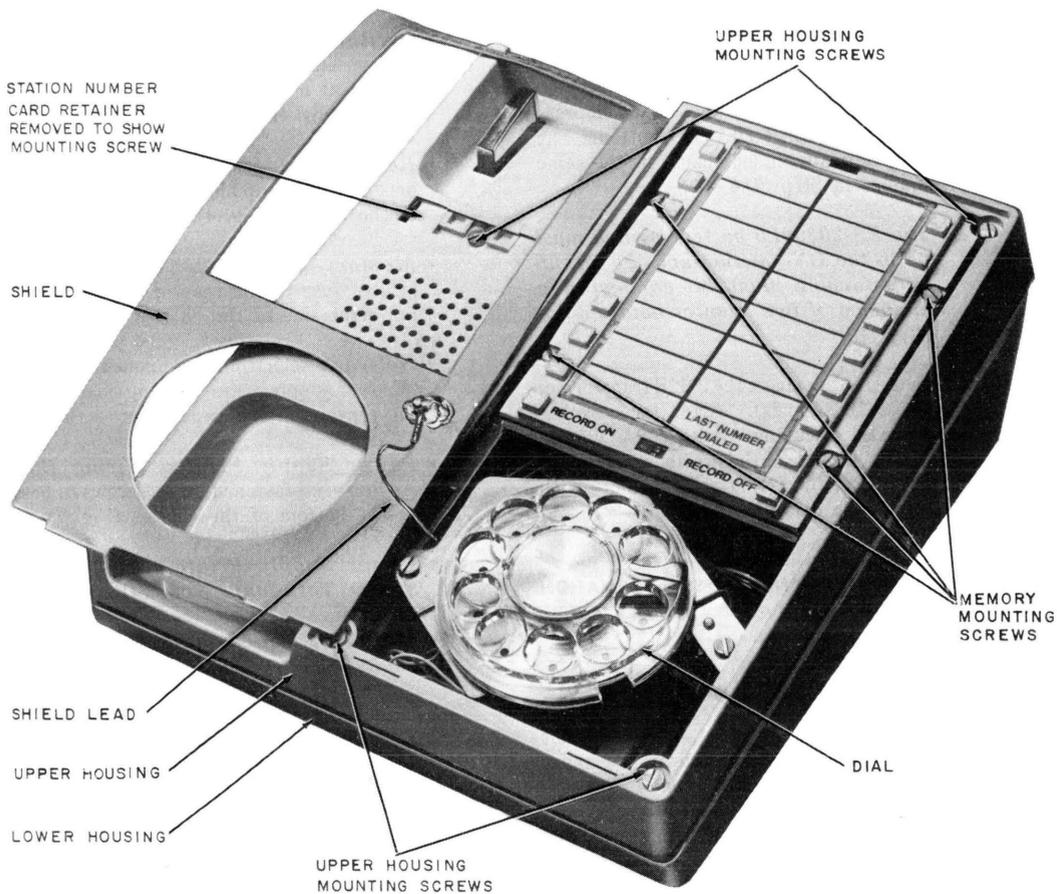

Fig. 4—960A01M Telephone Set With Handset and Faceplate Removed, and Shield Laid Aside
- ♦841388713 Shield (Fig. 4)♦
- **Shield**—underneath faceplate and is positioned over the dial and Memory (Fig. 4).
- **Rotary Dial**—fastened by two screws and located on the top side at right-front corner of the chassis (Fig. 4).
- **Memory**—fastened by four screws and located just to the rear of the dial on the top right side of the chassis (Fig. 4).
- **Upper Housing**—fastened by four screws to the top side of the chassis (Fig. 4).
- (1) Unplug the modular handset cord at the telephone set end and remove handset.
- (2) Remove the faceplate (3.14) and place the shield aside (Fig. 4).
- (3) Remove the station number card retainer and station number card.
- (4) Disengage the four captive upper housing screws (Fig. 4).
- (5) Remove the upper housing by slipping the shield through the faceplate cutout.
- (6) To replace the upper housing, reverse the procedure.